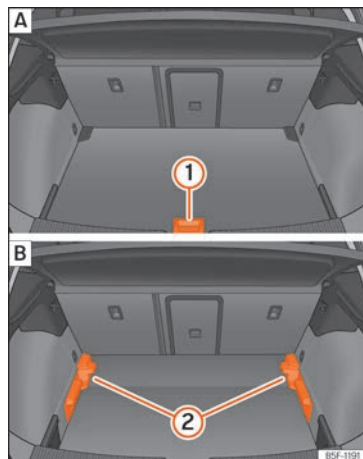

Fig. 116 Variable luggage compartment floor: **A** raised position; **B** lowered position.
- To move from the low position to the high position, lift the floor using the handle >>> **Fig. 116** **1**, and pull it back until the front of the floor has fully passed the supports **2**.
- To move from the high position to the low position, lift the floor using the handle >>> **Fig. 116** **1**, and pull it back until the front of the floor has fully passed the supports **2**.
- Lift the variable floor in the high position using handle » **Fig. 116** ①, pull it up and push it towards the backrest of the rear seats until it folds along the hinge line and the movable part of the floor is resting on itself.